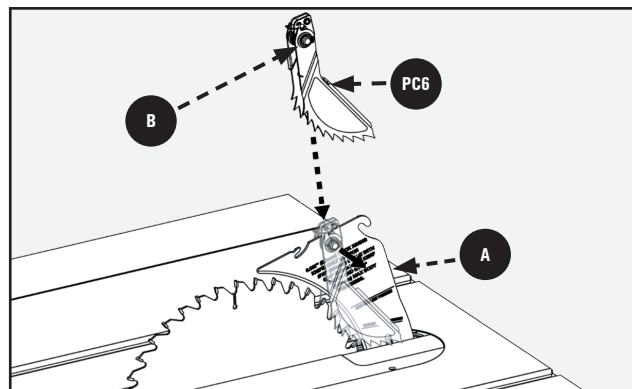

FIGURE 13
1. Refer to Figure 13 and locate the Anti-Kickback Pawls **PC6** Mounting Slot in the middle of the top edge of the Riving Knife **A**.